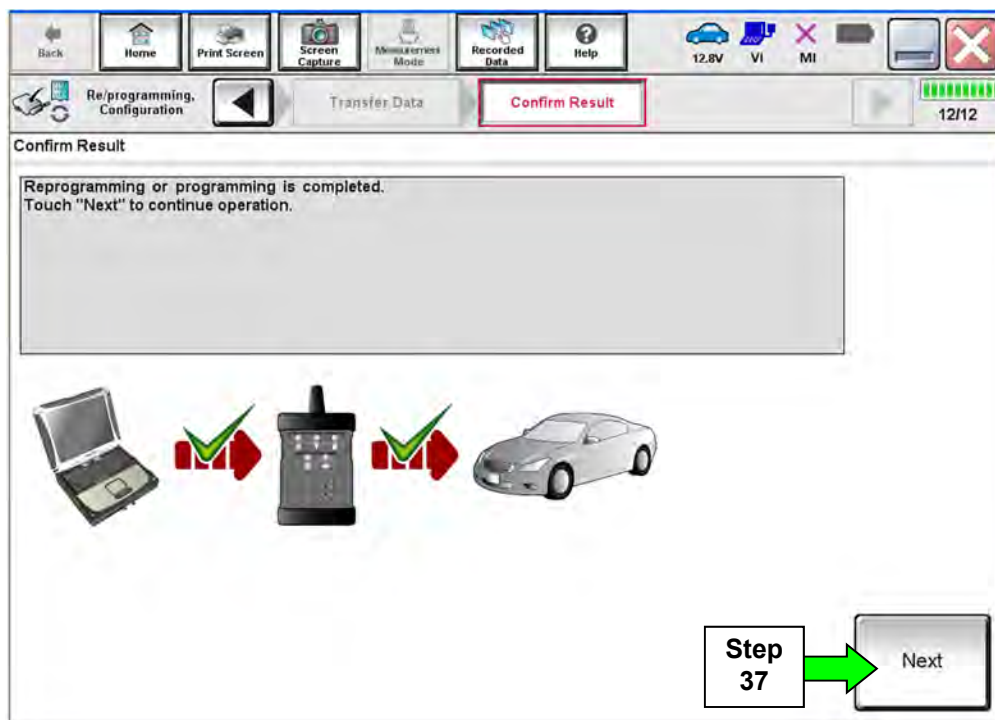

Figure 20
35. When the screen in Figure 20 displays, the reprogramming is complete.
NOTE: If the screen in Figure 20 does not display (indicating that reprogramming did not complete), refer to the information on the next page.